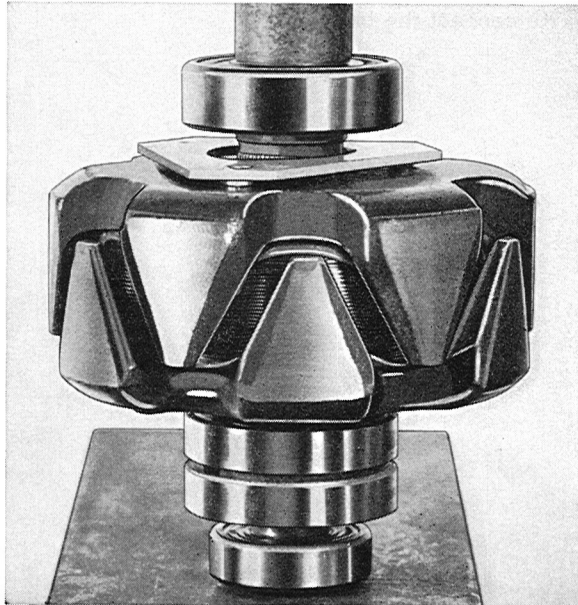

Fig. 3-17. Bearing installation
2. Press the bearing in with the help of a tubular sleeve which presses on the bearing inner ring, see Fig. 3-17.